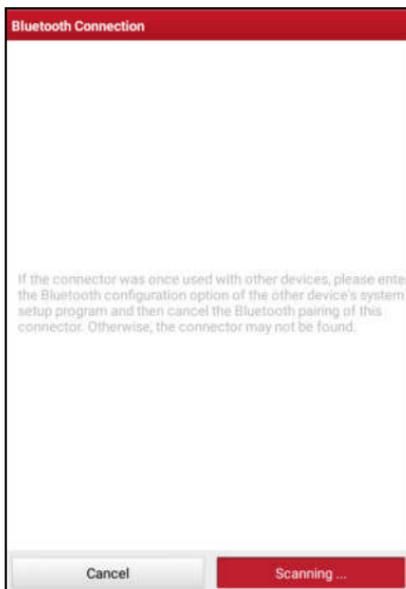
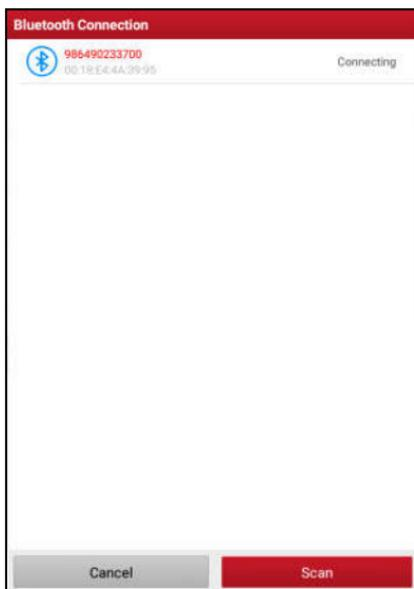

Fig. 4-19
Fig. 4-20
2. Check the box "Use WIFI communication mode", the system will search for VCI module automatically. See Fig. 4-19 & Fig. 4-20.